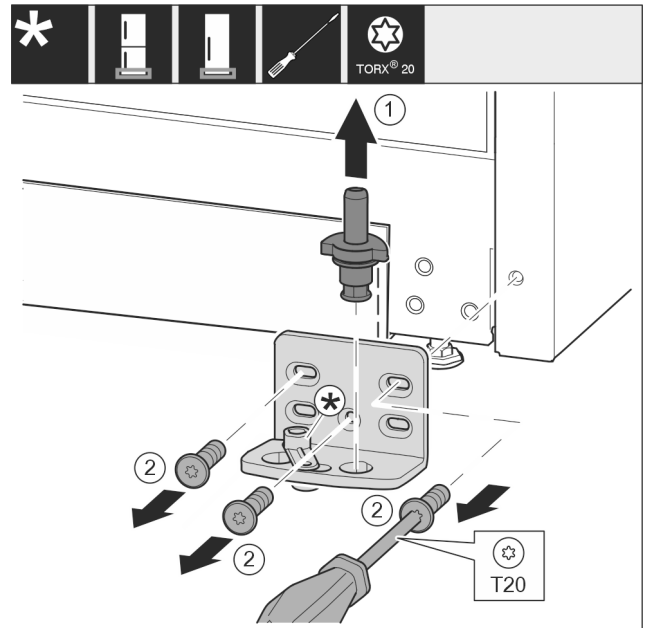

*Fig. 11*
- ▶ Remove the washer. *Fig. 11 (1)*
- ▶ Remove the screws with the T20 screwdriver. *Fig. 11 (2)*
- ▶ Remove the cover carefully. *Fig. 11 (3)*
- ▶ Screw the bearing bracket and the film rotated 180° firmly onto the other side. *Fig. 11 (4)*
- ▶ Attach the cover rotated 180° onto the other side. *Fig. 11 (5)*
- ▶ Push the washer in from the front. *Fig. 11 (6)*